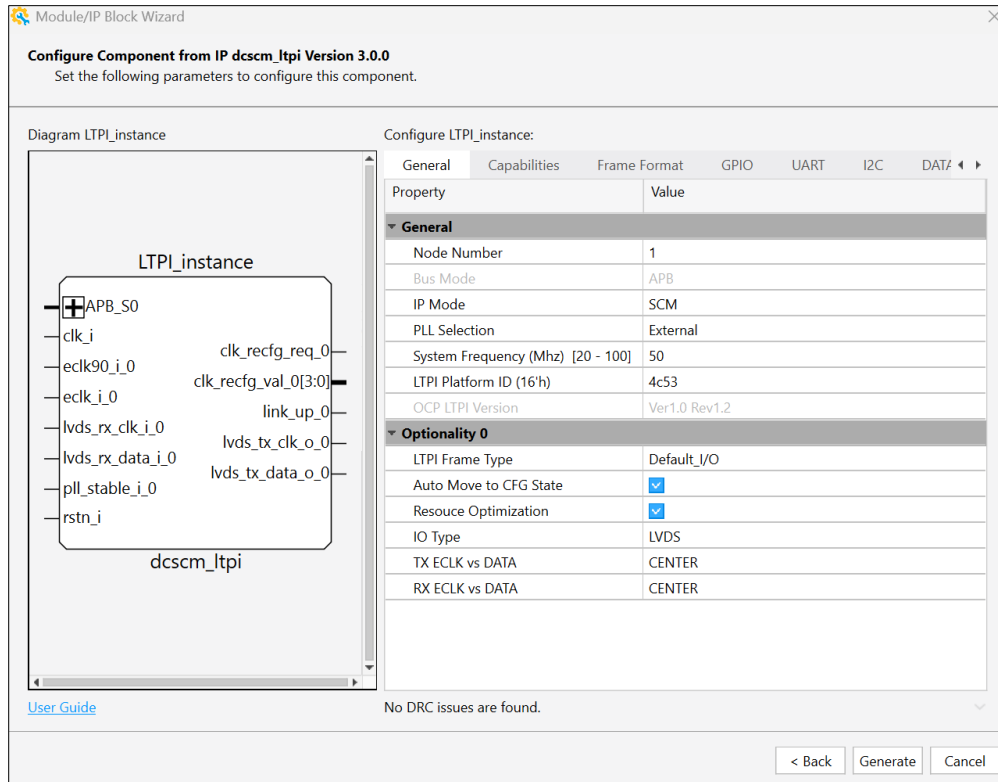

Figure 7.2. IP Configuration
3. In the **Module/IP Block Wizard** window, customize the selected DC-SCM LTPI IP using drop-down menus and check boxes. Figure 7.2 shows an example configuration of the IP. For details on the configuration options, refer to the IP Parameter Description section.